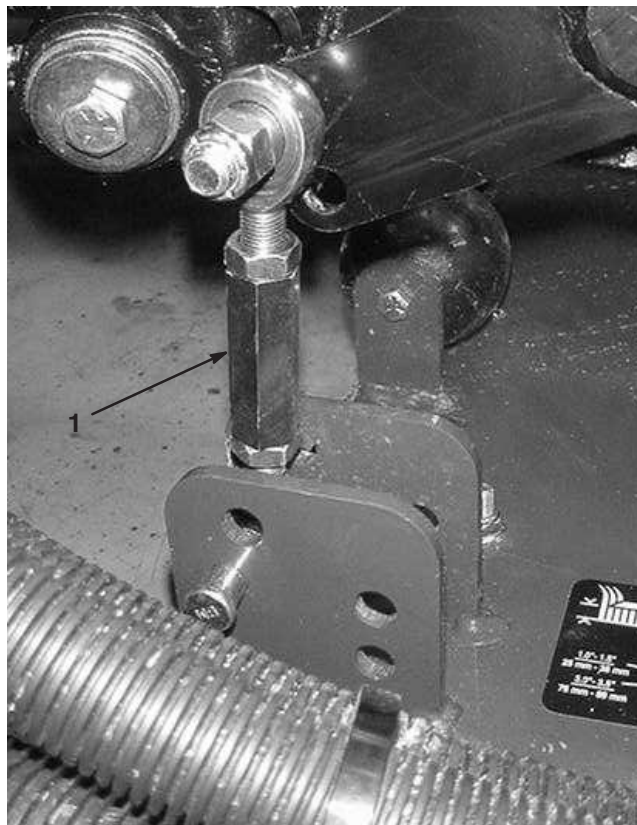
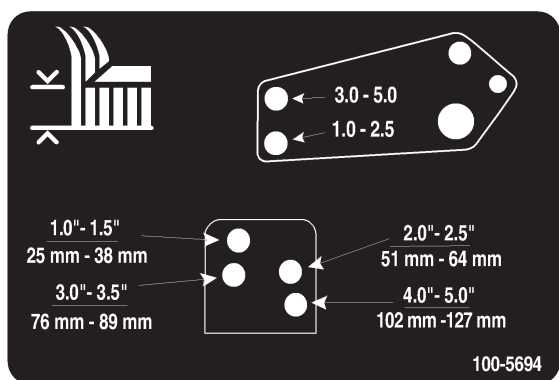

Figure 18
Figure 19
- Remove the hairpin cotters and clevis pins securing the damper links to the cutting unit brackets (Fig. 18). Align the damper link holes with the selected height-of-cut bracket holes in the cutting unit frame (Fig. 19), insert the clevis pins, and install the hairpin cotters.